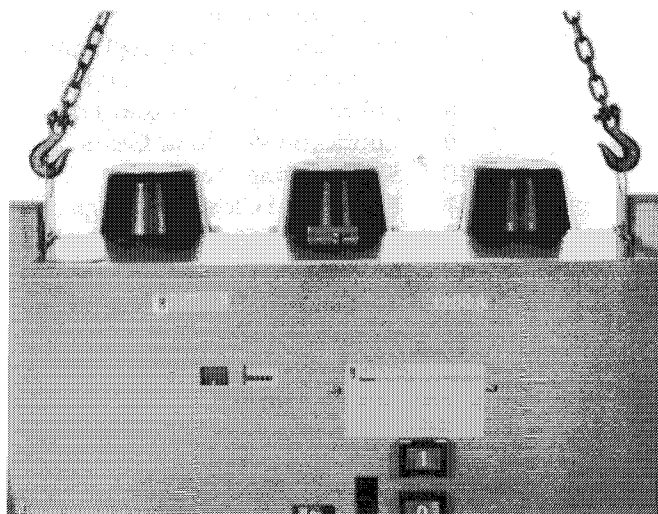

Figure 1: Breaker Lifting
4. The breaker weighs approximately 440 lbs. to 770 lbs. depending on rating. See figure 1 for lifting points.